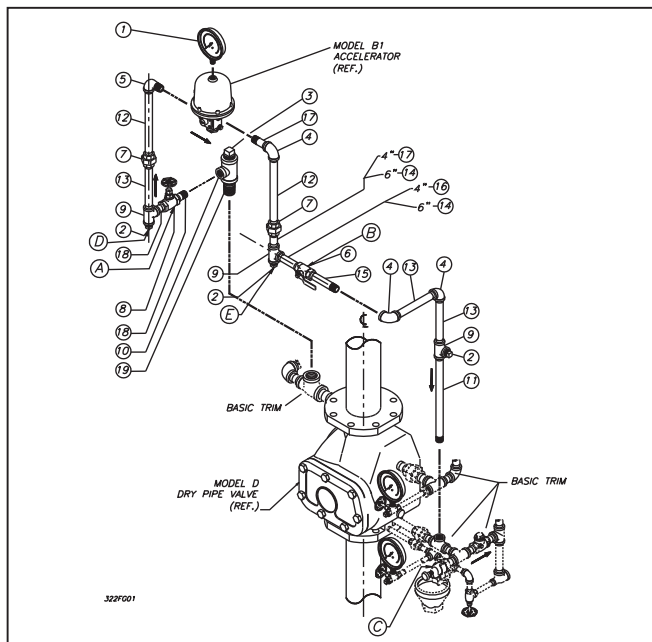
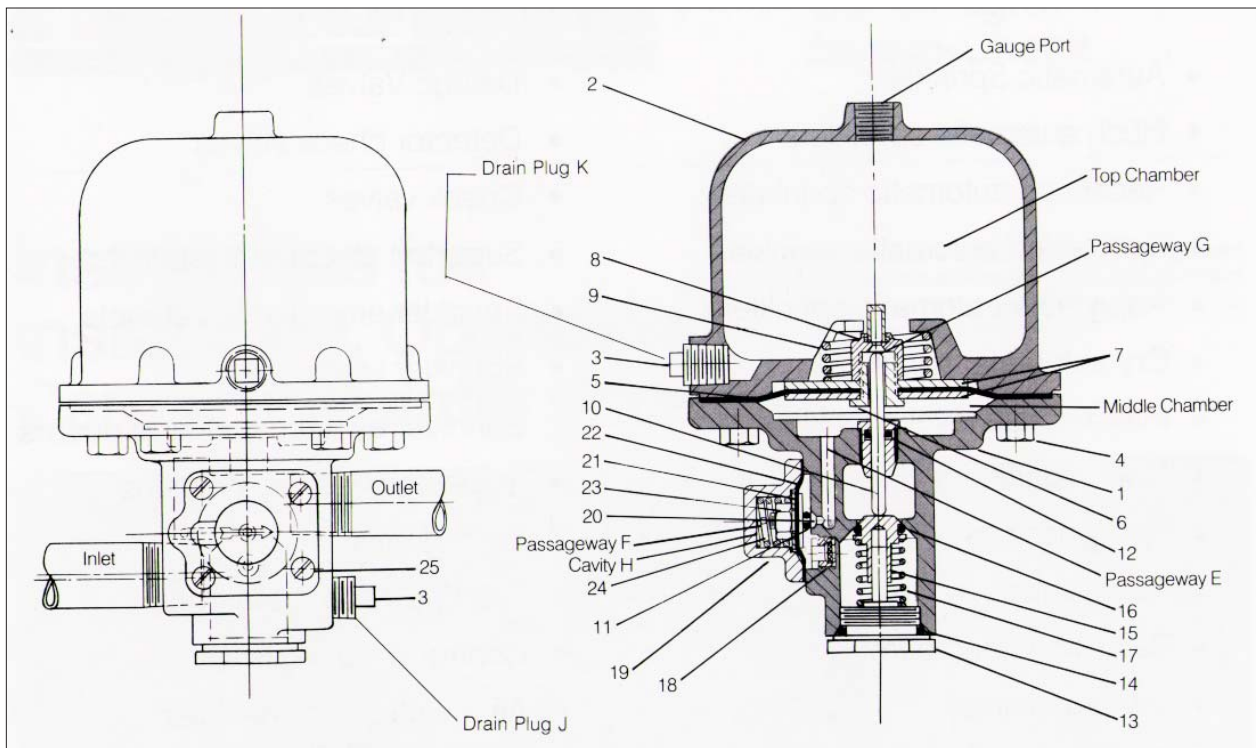

Fig. 1
Figure 2
The Model B1 Accelerator is a normally closed valve with $\frac{1}{2}$ " NPT ports, and it is sensitive to a rate of air pressure change. This device retains normal dry system air pressure in the top chamber, Figure 2, even though the system air pressure may be dropping, such as when one or more sprinklers open. The resulting differential force which is created across the Diaphragm Assembly (5-8) forces the Poppet (15) open, allowing system air pressure to pass to the intermediate chamber of the dry pipe valve and causing it to open. Simultaneously, pressurized air passes through the accelerator and closes the integral Accelo-Check (11,20-24) by pressurizing cavity H and preventing water and waterborne debris from entering the internal restriction area in passageway G. This increases the reliability of the device and reduces the maintenance which would otherwise be required to clean the accelerator after each operation.
Figure 2 depicts the accelerator in the closed position while being pressurized. The accelerator is filled by air from the dry pipe system entering the accelerator inlet, passing through the Filter Assembly (18) and passageway E to the Middle Chamber. The air pressure lifts the Diaphragm Assembly off the Push Rod (10) opening passageway G. The air then completely fills the Top Chamber to the system pressure. When filled, the Diaphragm Assembly rests on the push rod end and closes passageway G, except for minor leakage which is designed to compensate for air pressure fluctuations in the system.
The Reliable Model B1 Accelerator is quickly attached to the Reliable Model D, 4" or 6" Dry Pipe Valve using the Model BD-2 Accelerator Trimmings. No alterations are required to the sprinkler system for this installation. Figure 1 depicts the trimmings and indicates the dry pipe valve attachment points.
1. Close Valves A and B, Fig. 1.
4. Remove Plugs D and E, Fig. 1.
5. Remove the Body Drain Plug J, Fig. 2.
7. Remove the Accelo-Check Body (19), and gently lift the Accelo-Check Diaphragm Assembly (22) to verify venting of the middle chamber. Carefully reinstall these parts.
8. Partially open Valve A, Fig. 1, gently purging any water which may be in the trim lines. Close Valve A. Replace Plugs D and E. Partially open Valve A and gently purge. Close Valve A and replace the Body Drain Plug J, Fig. 2.
9. Pressurize the accelerator by opening Valve A, Fig. 1. Open Valve B and check for leakage at the Ball Drip Valve C. The top chamber pressure should equal the system pressure.
2. Loosen the Body Drain Plug J, Fig. 2, to decay the pressure at the inlet of the accelerator. This will simulate a system decay as when one or more sprinklers open. The accelerator should operate.
3. Reset the accelerator following the instructions described in the "Resetting Procedure" section items 4 through 9.